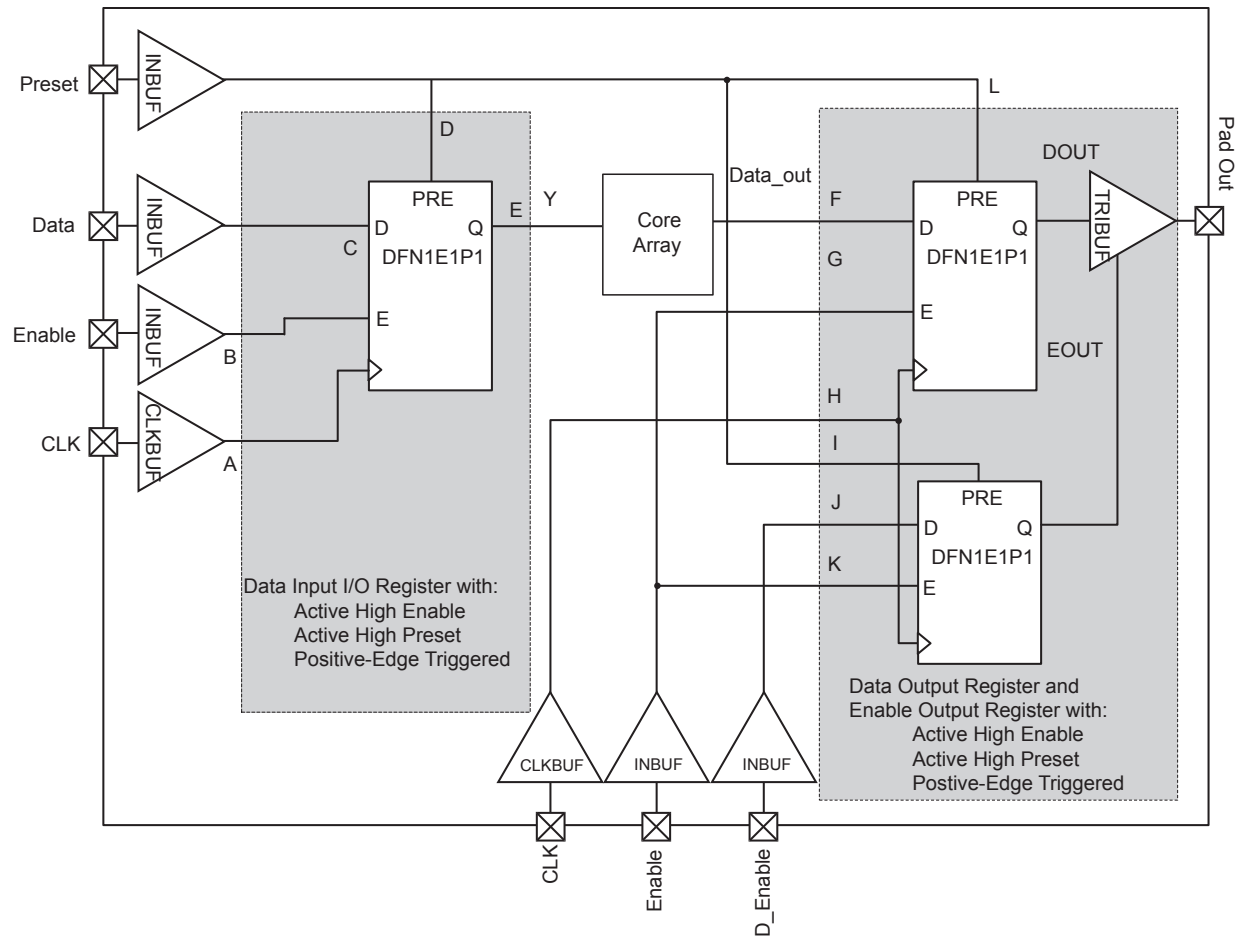

**Figure 2-14 • Timing Model of Registered I/O Buffers with Synchronous Enable and Asynchronous Preset**
**Note:** \*See Figure 2-14 on page 2-68 for more information.